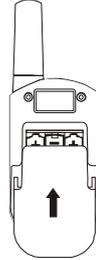
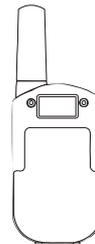

Figure 4
Figure 5
- c. Replace the Battery Compartment Cover. See Figure 4 & Figure 5.